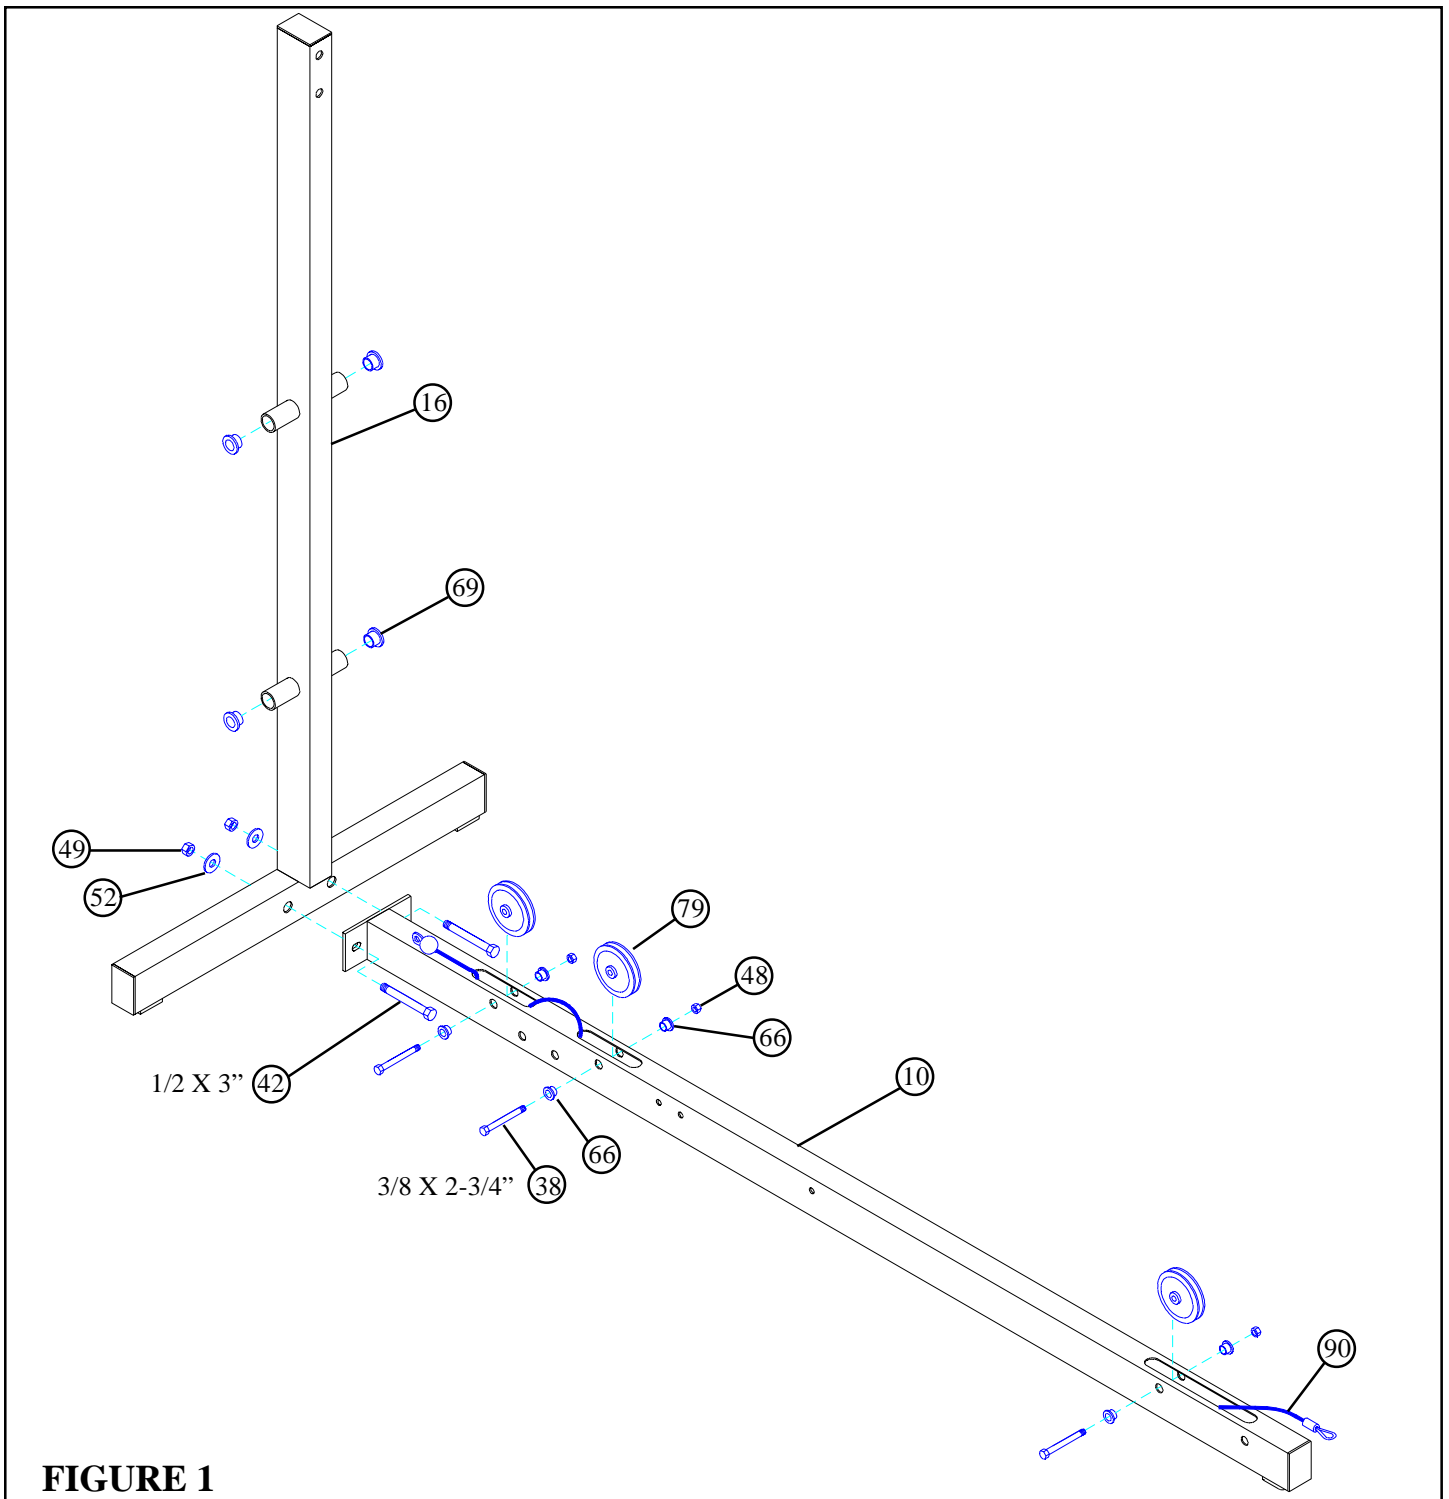

FIGURE 1
- Securely assemble REAR UPRIGHT (16) to BASE (10) using two 1/2 X 3" BOLTS (42), two 1/2" WASHERS (52), and two 1/2" LOCKNUTS (49).
- Slide 227" CABLE ASSEMBLY (90) through openings in BASE (10) as shown in FIGURE 1.
- Securely assemble three 3-1/2" PULLEYS (79) into BASE (10) using three 3/8 X 2-3/4" BOLTS (38), six 3/8" FLANGE SPACERS (66), and three 3/8" LOCKNUTS (48). (**NOTE: Make sure 227" CABLE ASSEMBLY (90) is routed under PULLEYS and BOLTS.**)
- Insert four 3/4" FLANGE BEARINGS (69) into tubes on REAR UPRIGHT (16) as shown in FIGURE 1